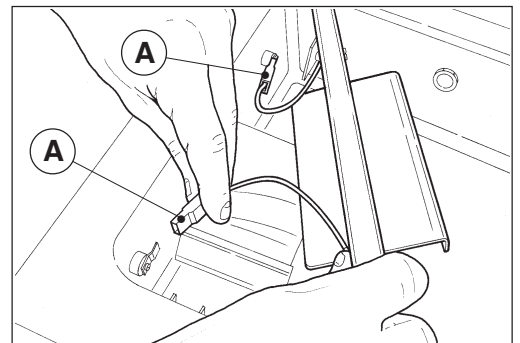

Fig. 1
- 2) Disconnect the two sealing bar connection wires (A - Fig. 1).